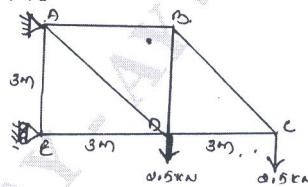

Fig.Q2(b)
b. Determine the forces in all the members of the truss by using methods of sections and tabulate the forces. [Refer Fig.Q2(b)] (14 Marks)